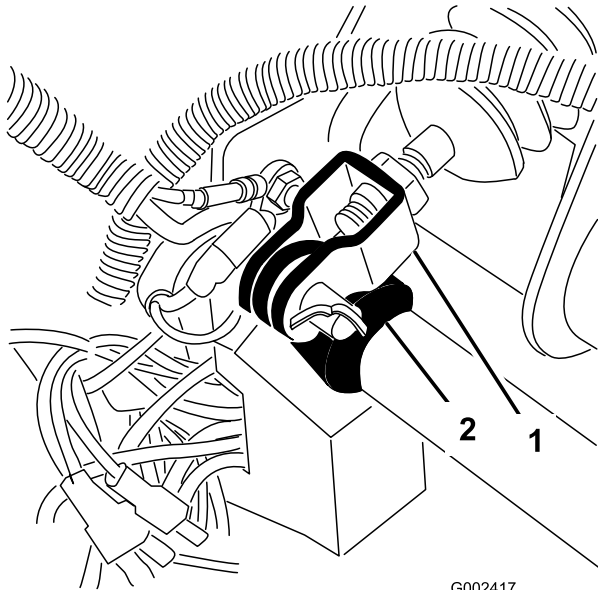

Figure 67
1. Remove cotter pin and clevis pin securing master cylinder yoke to brake pedal pivot (Figure 67).
3. Loosen jam nuts securing yoke to master cylinder shaft (Figure 67).